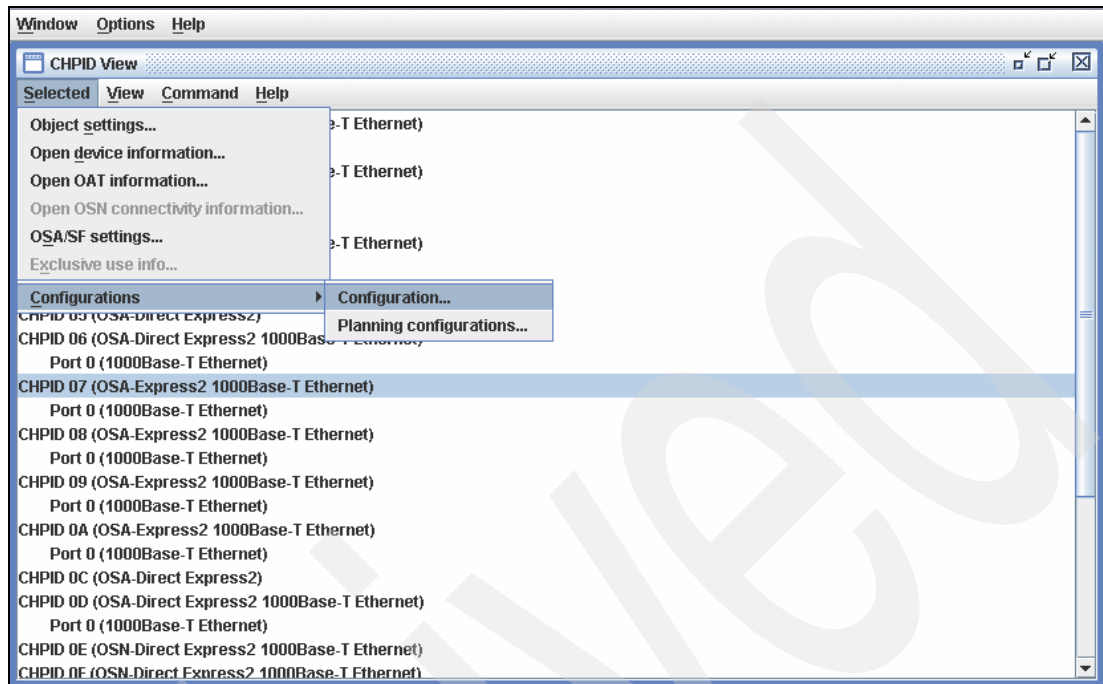

Figure 4-17 OSA/SF Workstation Interface - Selected Configurations
4. Select the CHPID you want to work with from the list. Click **Selected** → **Configurations** → **Configuration...**, as shown in Figure 4-17.